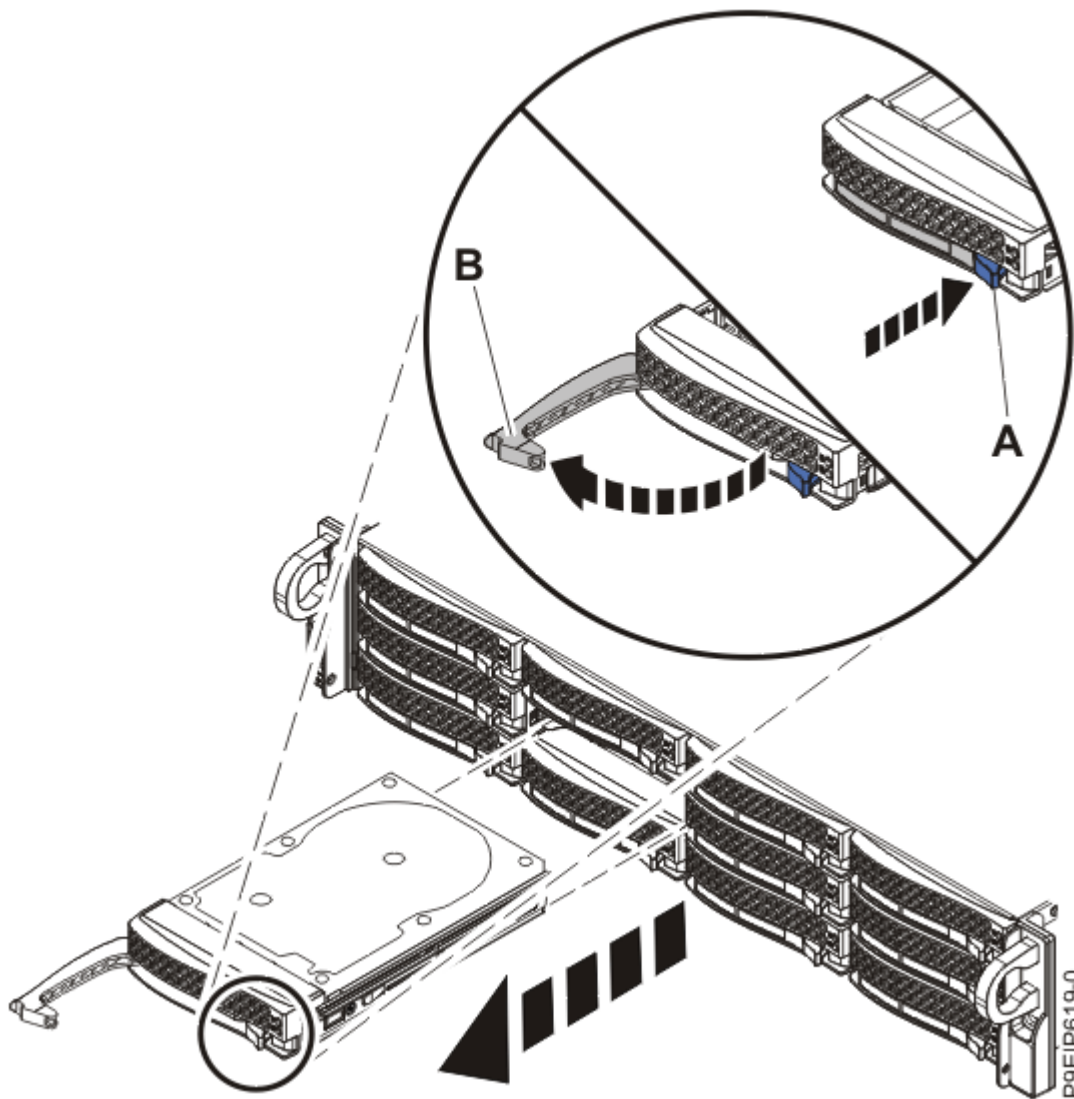

Figure 1. Removing a front drive
3. Unlock the drive bay handle **(B)** by pushing in the handle release **(A)** as shown in Figure 1 on page 4. The handle **(B)** snaps out towards you. If the handle does not snap out all the way, the drive does not slide out of the system.